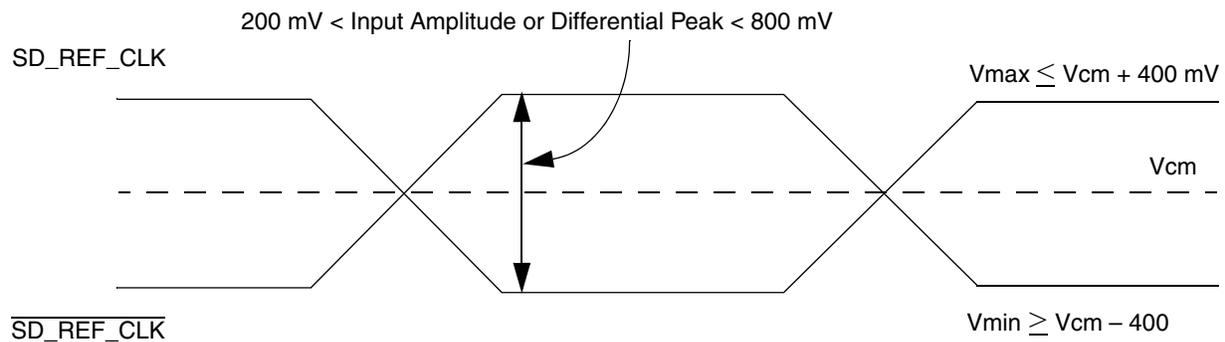

Figure 53. Differential Reference Clock Input DC Requirements (External AC-Coupled)
- For **external AC-coupled** connection, there is no common mode voltage requirement for the clock driver. Since the external AC-coupling capacitor blocks the DC level, the clock driver and the SerDes reference clock receiver operate in different command mode voltages. The SerDes reference clock receiver in this connection scheme has its common mode voltage set to SGND_SRDS_n. Each signal wire of the differential inputs is allowed to swing below and above the command mode voltage (SGND_SRDS_n). Figure 53 shows the SerDes reference clock input requirement for AC-coupled connection scheme.